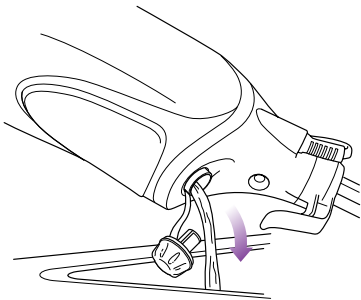

fig. 15
- 2 Empty the water tank before storage. Remove the water tank cap and empty the tank over a sink. Replace the water cap. (fig. 15)